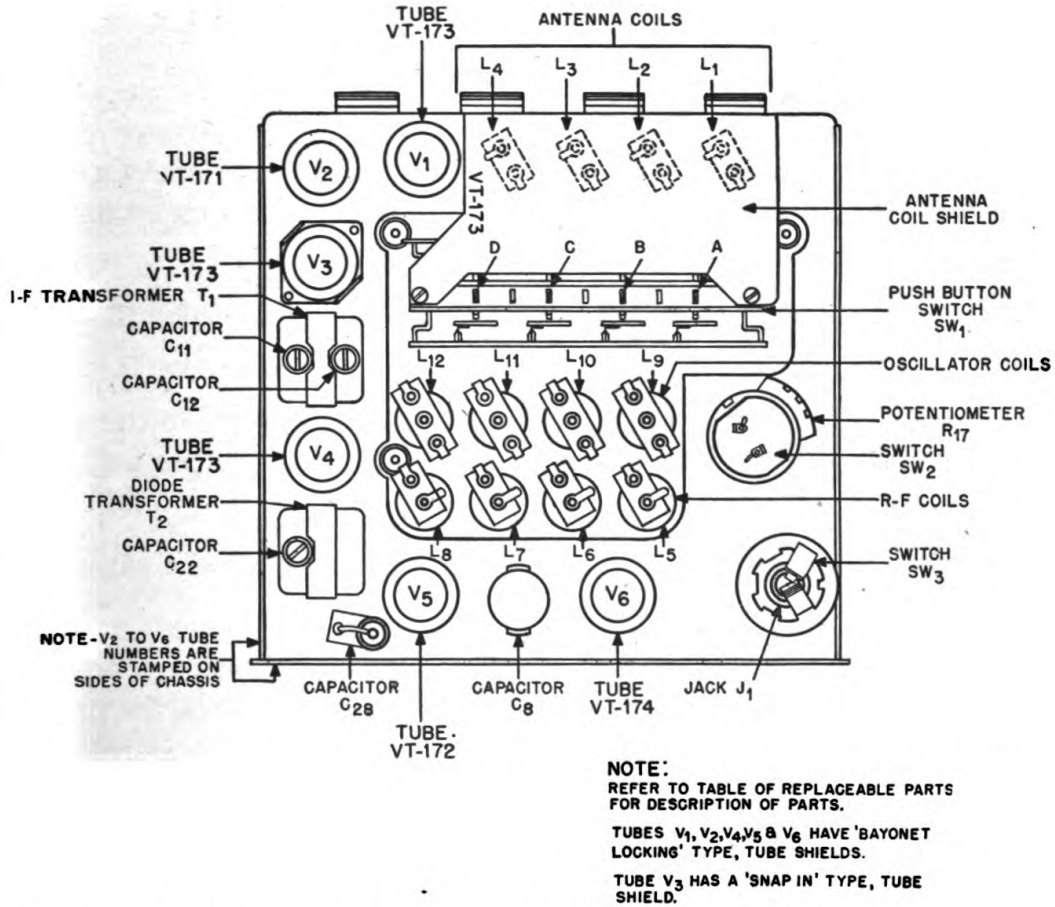

FIGURE 18—RADIO RECEIVER BC-728-A, CHASSIS—TOP VIEW—SHOWING MAJOR PARTS
Locate the defective tube. This is done most conveniently by replacing the tubes one at a time with tubes known to be good. Be sure the proper type of tube is used for replacement. Check this by comparing the type number of the tube with the number stamped on the edge of the chassis base along side the tube socket. One socket has the type number stamped on the coil shield directly above and to one side of the socket. (See Figure 18.)
e. Transformer and Choke.—Unsolder the leads from the part to be replaced and remove the mounting screws holding the part to chassis. See Figure 18 for location of mounting screws. To replace the part, replace the mounting screws and solder the leads to their proper terminals.
Tune capacitor C₂₂ for the greatest reading on the output meter. See Figure 18 for trimmer location. Tune trimmers C₁₁ and C₁₂ likewise. Go over the three adjustments very carefully a second and third time, tuning for the greatest reading on the output meter. The signal generator output should be reduced to give an audio output of not more than .4 volts as the adjustments proceed.